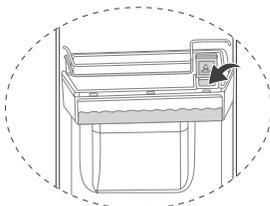

Figure 1
- Water shall be filled here. (Figure 1)